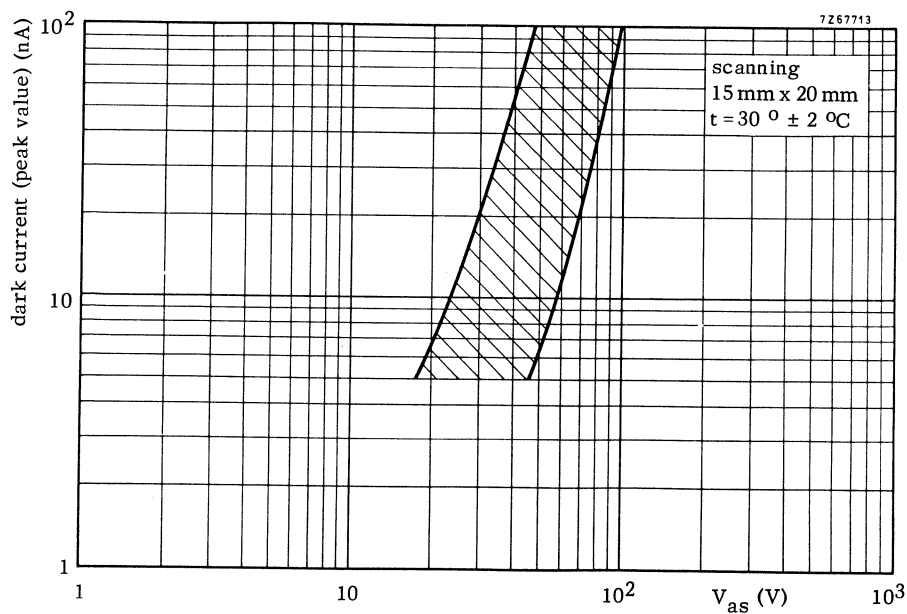

Fig. 2 Dark current range/signal electrode voltage curve.
7. The dark current is dependent on the signal electrode voltage and the temperature. This is shown in Figs 2 and 3.